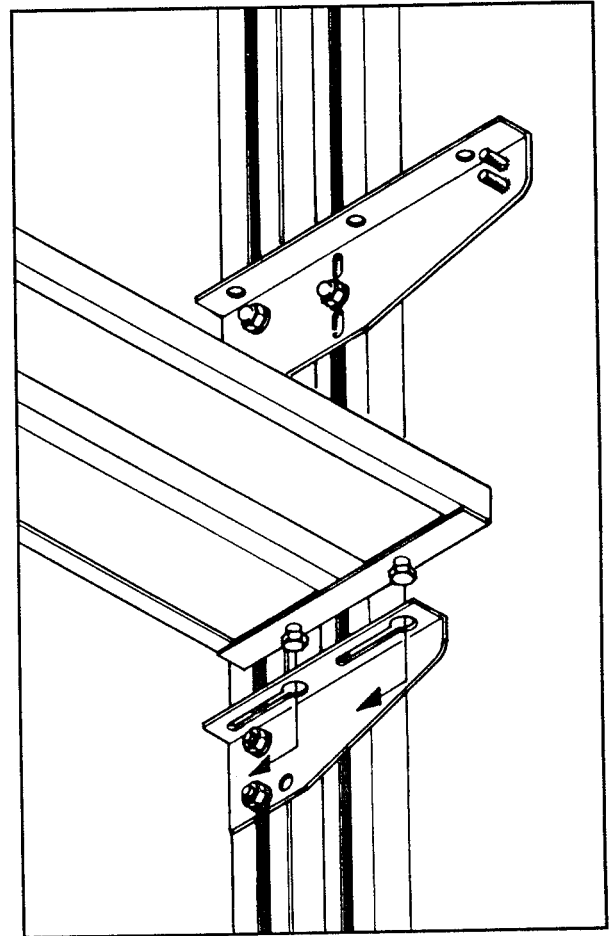

FIGURE 7
- Place shelf in an upright position. Insert screw heads into the large opening at the end of each slot in the shelf support bracket as shown in FIGURE 7.